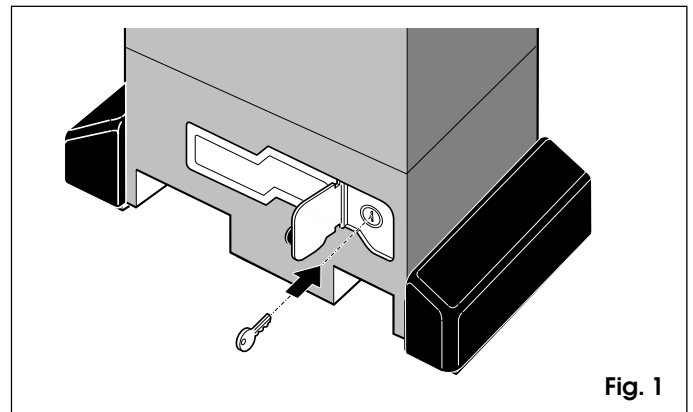

Fig. 1
To access the tank, temporarily remove the oil filling plug (Fig. 1 ref.8).
- 1) Open the protective door and fit the supplied key in the lock (Fig. 1).